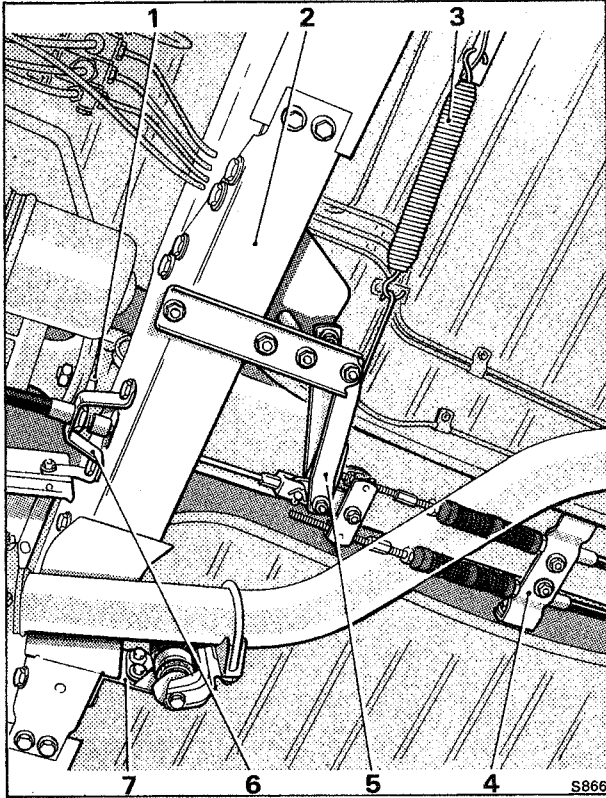

Fig. F2 Centre crossmember and parking brake linkage. Left hand drive car
8. On left-hand drive cars, remove the front cable mounting bracket situated on the front face of the centre body crossmember (see Fig. F2).